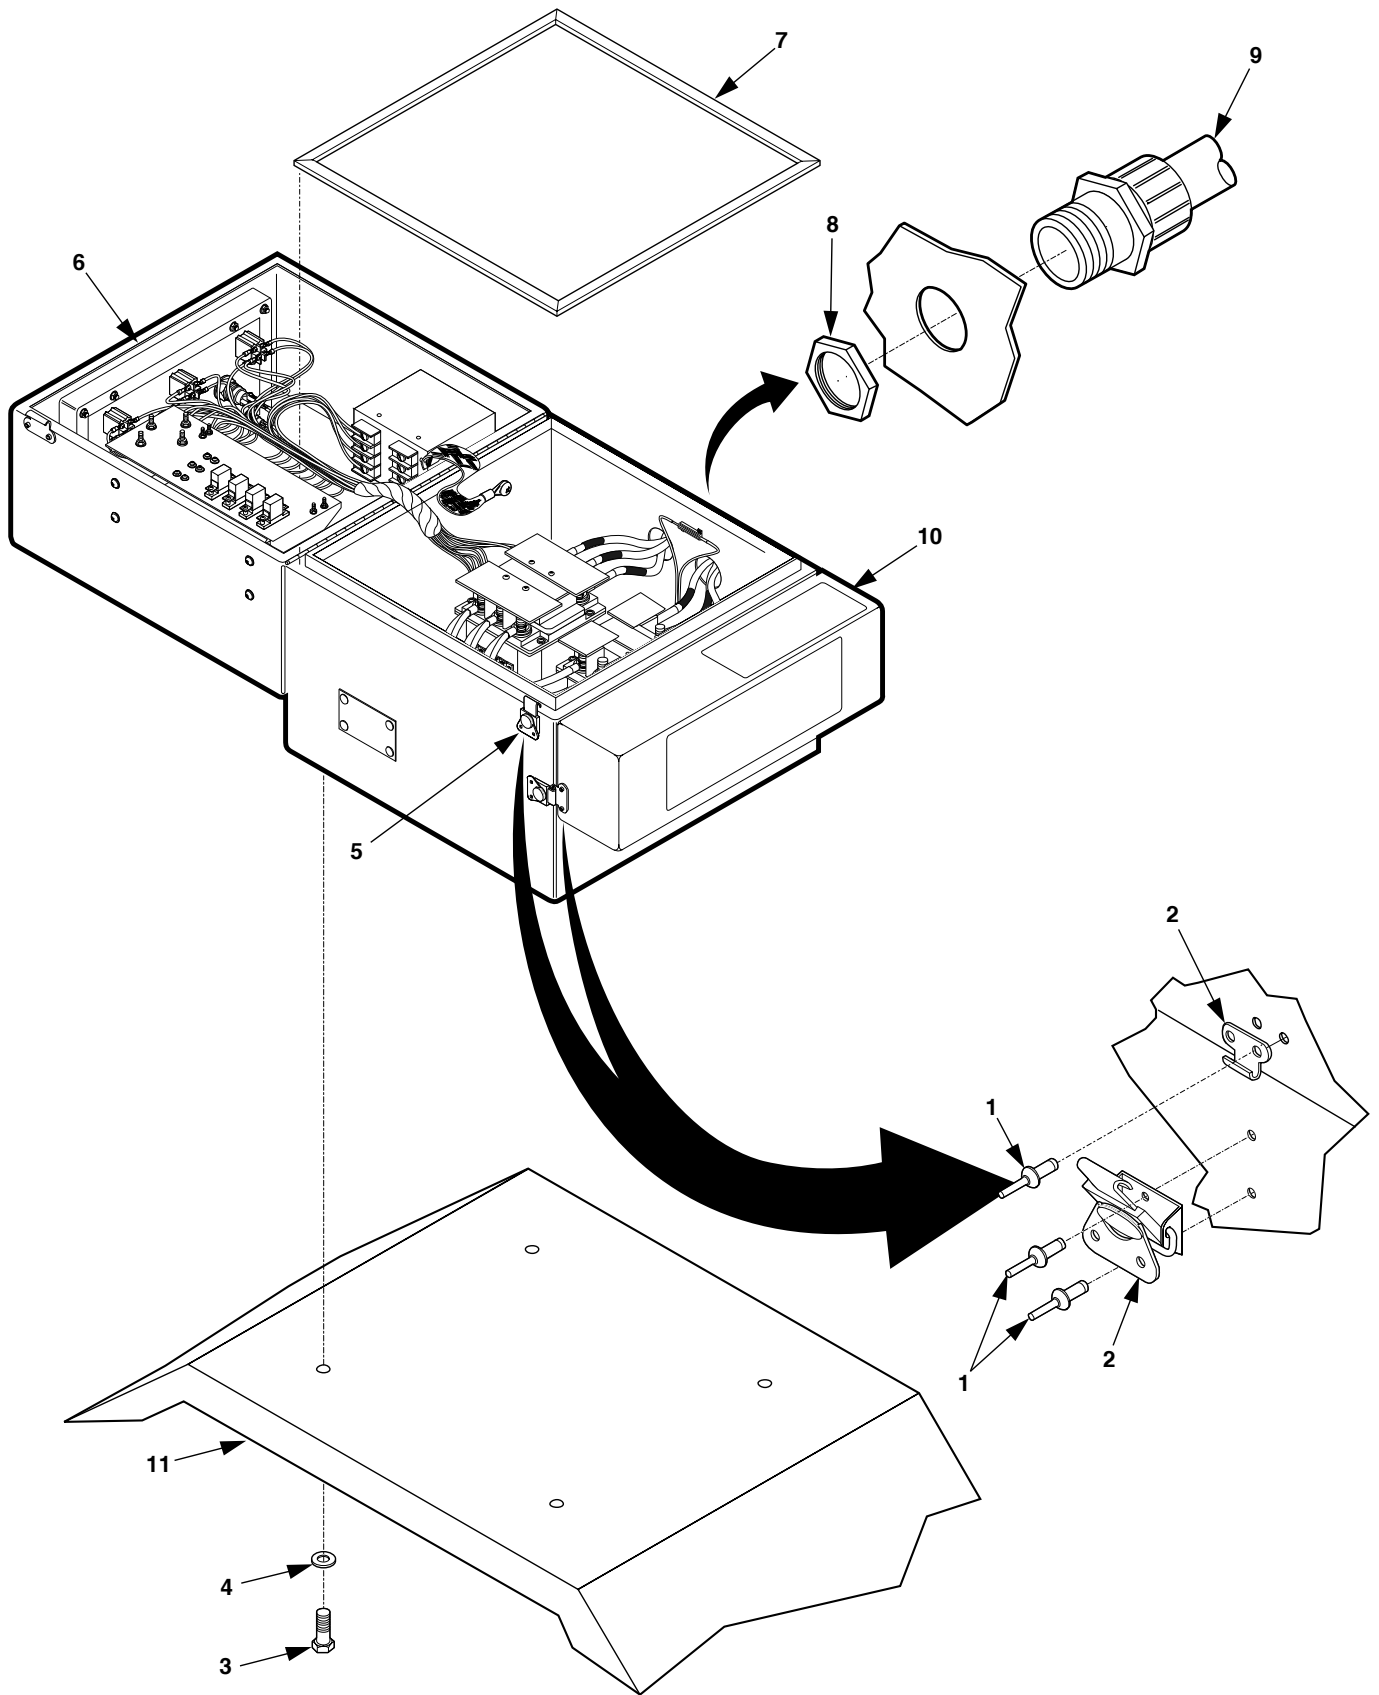

Figure 4-13.1. Switch Box Repair (NEW).
1. Release clamping catches (5, figure 4-13.1) and open switch box cover (6).